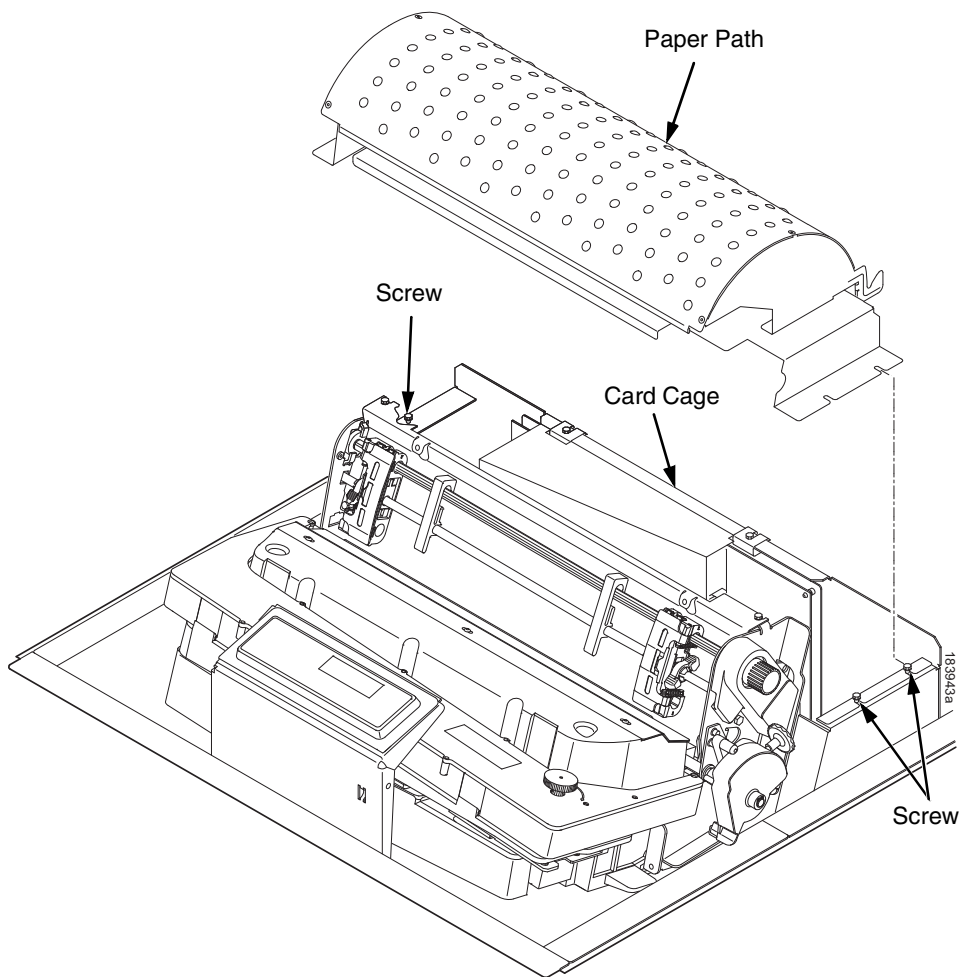

Figure 80. Remove the Paper Path
4. Loosen—do not remove—the three paper path hold-down screws. Slide the paper path to the left and lift it off the card cage. (Figure 80.)